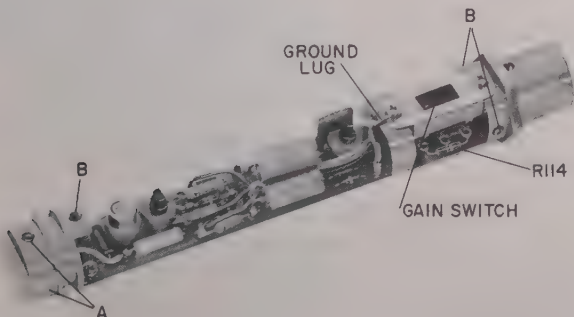

Figure 3-1. Interior view of the preamplifier.
- a. Turn in the two screws (A, Figure 3-1), using the hexagonal wrench provided.
sensitivity value given for the particular microphone being used. Add the correction algebraically to the specified microphone sensitivity value to obtain the effective sensitivity value. This corrected value can then be used to calibrate the measuring instrument, as directed in the Operating Instructions for the latter. If a Type 1552-B Sound-Level Calibrator is used to calibrate the system, the gain of the preamplifier should be set at X1, to prevent its possible overload (see Figure 3-1). If the system is calibrated with a Type 1559-B Microphone Reciprocity Calibrator, the preamplifier gain may be set at either X1 or X10.
Connect the preamplifier to its source of power (refer to Section 2) and connect the input signal to the preamplifier by means of the correct adaptor. Set the gain switch (see Figure 3-1) to the desired gain, either X1 or X10, as engraved on the switch.
the preamplifier (refer to paragraph 4.3.2). Then remove the screw holding the ground lug at the end of the gain switch (see Figure 3-1). Bend the connecting lead so that the lug can not contact the shell or any part of the circuit. Then replace the screw. Also, be sure that the circuit is not grounded to the shell by the input or output connector. If cable connections are used, a two-conductor shielded cable for the input and a three-conductor shielded cable for the output are required. The shield must connect to the shell. The low side of the preamplifier circuit connects to terminal #1 of the three-terminal output plug.
Attach the microphone to the preamplifier as described in paragraph 3.1. Connect the preamplifier to its power source and to the measuring instrument (which may also be the power source; refer to paragraphs 2.3 through 2.5). Slide the gain switch (see Figure 3-1) to the desired gain, X1 or X10, as engraved on the switch. When the gain is X10, subtract 20 dB from the decibel reading of the measuring instrument to obtain the noise level at the microphone.